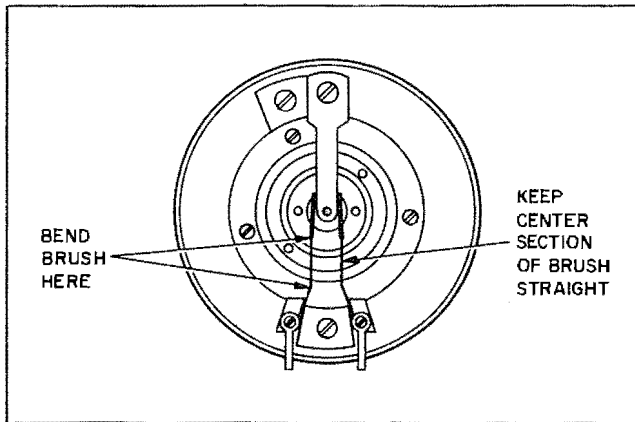

Figure 47R-1. Method of Bending Brushes
e. If the gyro is not level, the brushes should be adjusted accordingly by moving the brush block and bending the brushes. For convenience, adjust one brush at a time. This may be done by isolating the other brush and slipping a thin piece of lint-free insulating material (such as cellophane) between the brush and the slip ring. An a-c voltmeter connected to the black and white terminals of the leveling torquer (B102) will facilitate making the adjustment. When the brush is making contact with the conducting segment of the leveling switch, the voltmeter will read approximately 4.5 volts. When the brush is not making contact, the voltmeter will read approximately zero volts. The leveling switch should break contact when the gyro is within a few degrees of the level position. Bend the brushes as shown in figure 47R-1.